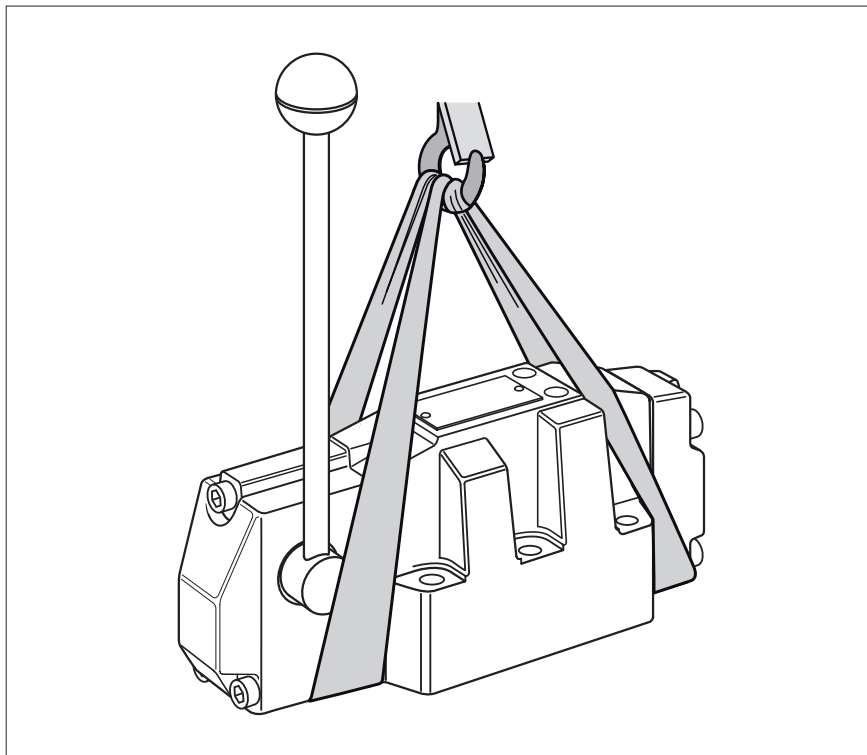

Fig. 5: Position of the lifting strap
- Put a lifting strap around the valve so that it does not lie over the add-on units, see figure 5.